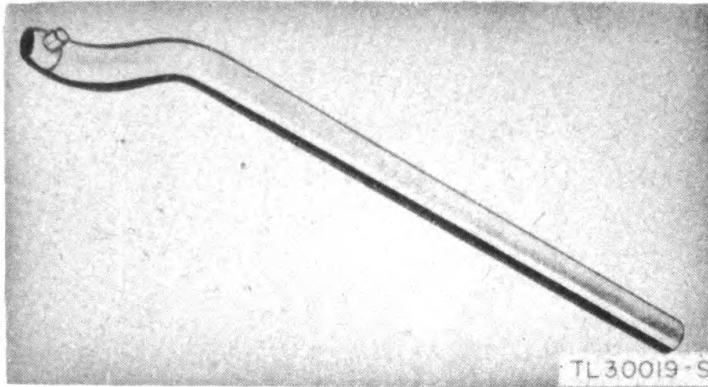

Figure 19. Spanner Wrench MX-210/UP.
a. Spanner Wrench MX-219/UP (fig. 19). This is a steel tool 6 inches long and $\frac{1}{4}$ inch thick with a steel pin $\frac{1}{8}$ inch in diameter inserted $\frac{3}{16}$ inch